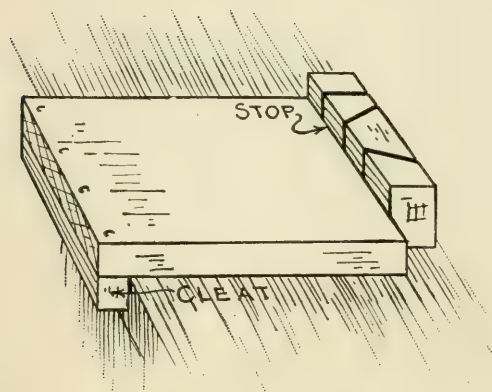

FIG. 60. — Bench-hook.
**A Bench-hook** (Fig. 60) is used for a number of operations. For paring with your chisel and chopping with your hatchet it furnishes